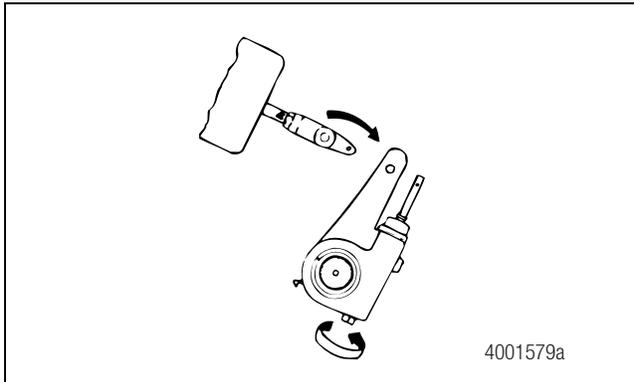

Figure 6.2
- Use a wrench to turn the manual adjusting nut in the direction shown in Figure 6.2. Move the slack adjuster away from the clevis.